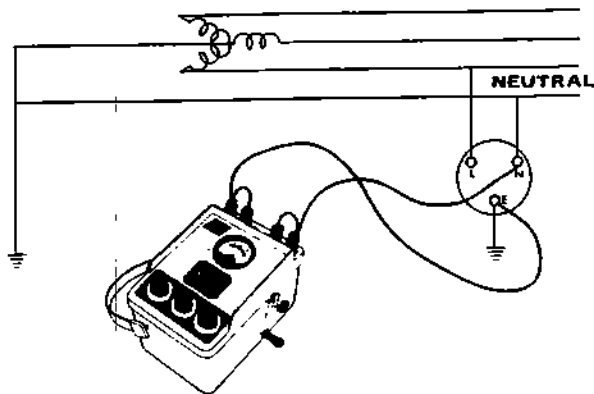

Figure 3-8. Connections for Testing a Neutral-Earth Loop.
a. TESTING A NEUTRAL-EARTH LOOP. To test a neutral-earth loop, connect the earth tester as illustrated in Figure 3-8.